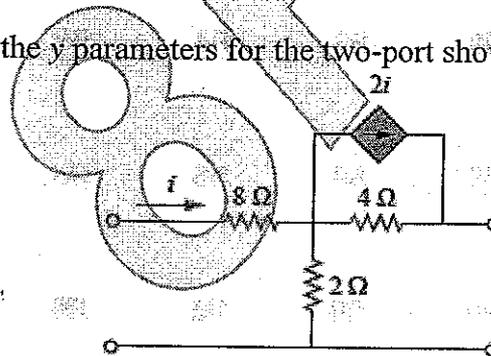

Figure: 2
- 2.a) Determine the y parameters for the two-port shown in figure 2. [7+8]